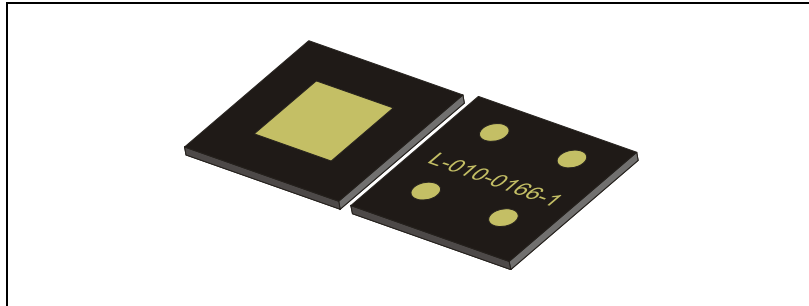

Figure 4-13. Calibration component (L-010-0166-1 HCOB ED-1)
- Calibration component (L-010-0166-1 HCOB ED-1), see Figure 4-13.
- When prompted, put the calibration component on the area calibration background (If not already done, insert the area calibration background as described in the procedure on page 4-12). The component should be placed on the calibration background with the text and four dots upwards, see Figure 4-13.